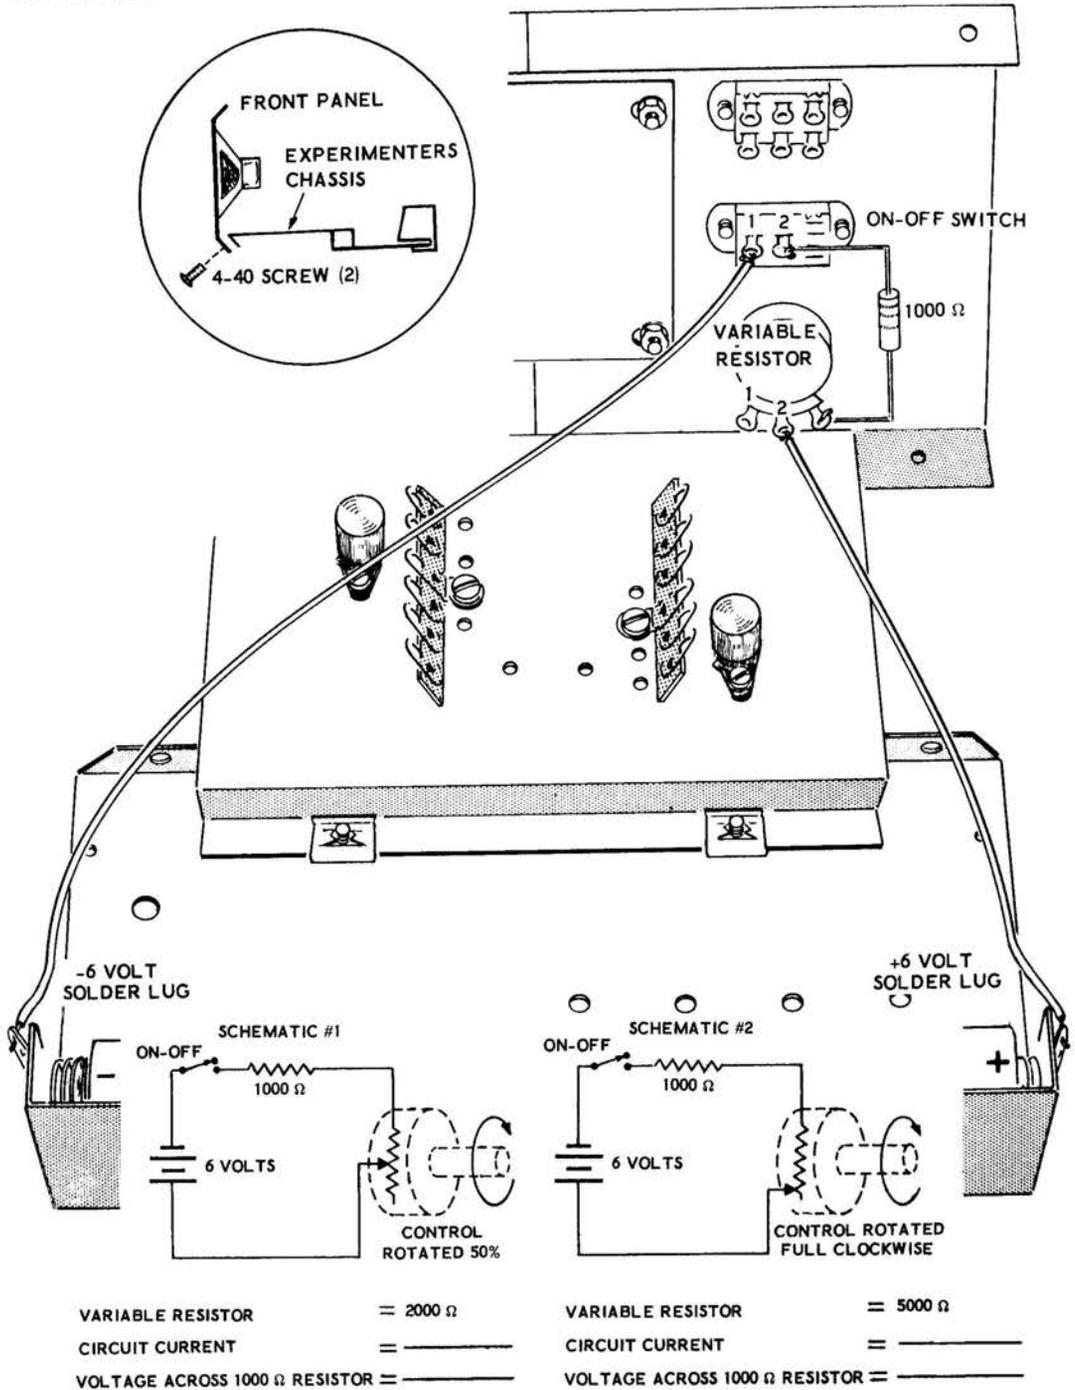
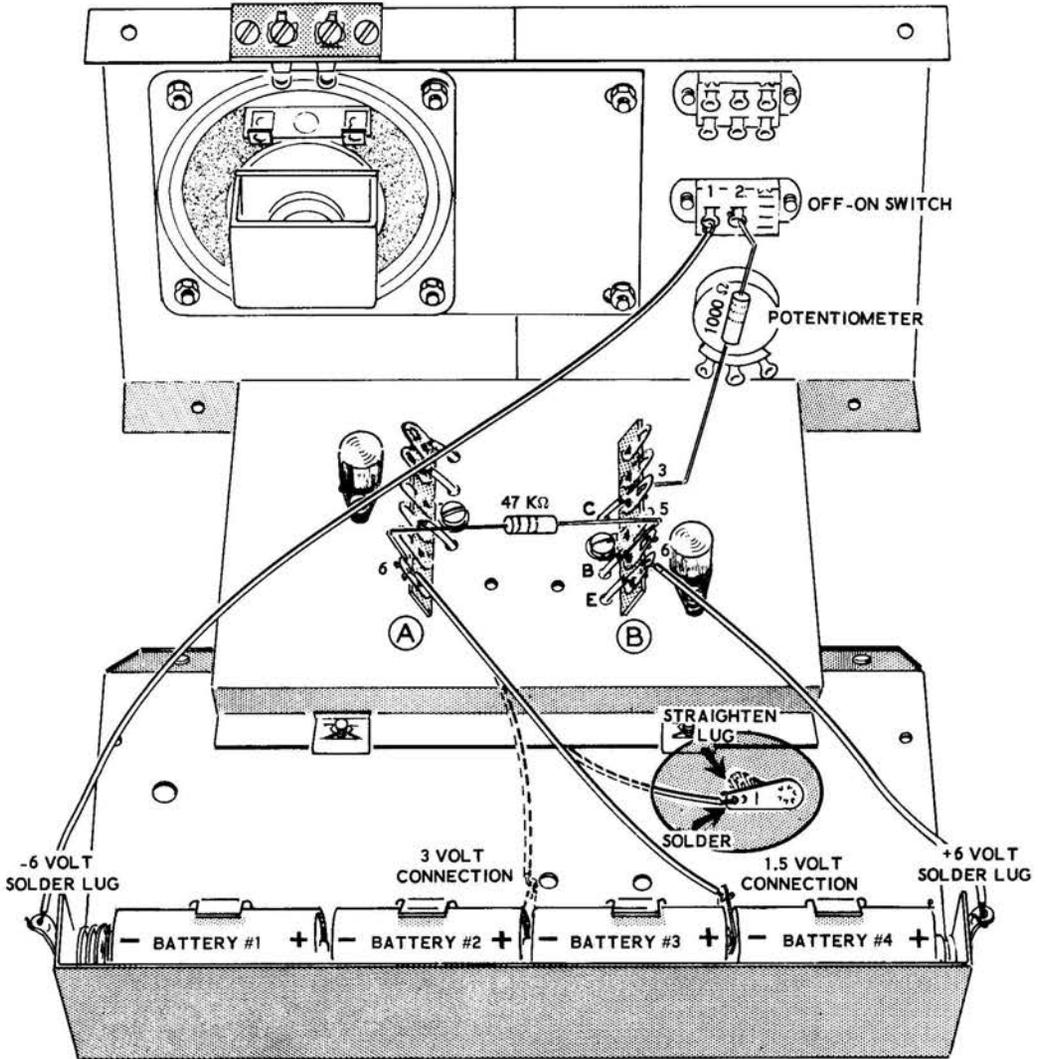

Figure 3K
Figure 3L
- () Fasten the assembled front panel to the front lip of the experimental chassis as it is in the inset in Figure 3K by installing two 4-40 screws into the 4-40 speednuts on the front flange of the experimental chassis.
Refer to Figure 3K for the following steps.
- () Connect a 12" length of hookup wire from the -6 volt solder lug (S) to lug 1 of the ON-OFF switch (S).
- () Connect a 1000 Ω resistor from lug 2 of the ON-OFF switch (S) to lug 3 of the variable resistor (S).
- () Connect an 8" length of hookup wire from lug 2 of the variable resistor (S) to the +6 volt solder lug (S).
- () Remove your meter leads from lugs 2 and 3 of the variable resistor. You have now adjusted the variable resistor to give you the circuit of Schematic #1 of Figure 3K.
- () Connect the minus voltmeter lead to lug 2 of the ON-OFF switch and connect the positive voltmeter lead to lug 3 of the variable resistor. Turn the ON-OFF switch ON. Note the reading on the meter. This is the voltage across the 1000 Ω resistor. Mark it down in the correct blank below Schematic #1 of Figure 3K.
- () The circuit has now been adjusted so that your meter will read the current flowing in Schematic #2 of Figure 3K. Note the current reading on the meter and write it down in the proper blank below the schematic.
- () Now connect the negative meter lead to lug 2 of the ON-OFF switch and connect the positive meter lead to lug 3 of the variable resistor. Note the voltage reading on the meter and insert it in the proper blank below Schematic #2 of Figure 3K.
Refer to Figure 3L for the following steps.
- () Disconnect the 1000 Ω resistor lead from lug 3 of the variable resistor and connect it instead to lug 3 of terminal strip B (S).
- () Disconnect the lead from lug 2 of the variable resistor and connect it instead to lug 6 of terminal strip B (S).
- () Connect a 47 K Ω resistor from lug 6 of terminal strip A (NS) to lug 5 of terminal strip B (S).
- () Connect a #6 solder lug to one end of a 6-1/2" hookup wire as shown in the inset drawing of Figure 3L (S). Squeeze the solder lug out flat with pliers before soldering the lead to it.
NOTE: The experimental chassis is now wired with the circuit shown in schematic #1 of Figure 3L. To make the schematic diagram easier to follow, the battery which controls the current in the transistor is shown separately. Actually it is battery #4 that is used for this purpose, as well as its normal purpose of supplying power to the rest of the circuit (in series with the other three batteries). The 47 K Ω resistor is used only as a protective device (current limiter) in the circuit, and it should not be considered as an integral part of the experiment.
() The circuit of Schematic #1 is now completed since your meter bridges across the ON-OFF switch. Note the reading on the meter and mark it down in the blank for measured circuit current (I) on Schematic #1 of Figure 3L.
() Turn the ON-OFF switch to the ON position and note the reading on the meter. Mark this voltage reading down in the blank for the "measured voltage across R1," the 1000 Ω resistor at Schematic #1 on Figure 3L.
SCHMATIC #1 OF FIGURE 3L
SCHMATIC #2 OF FIGURE 3L
() Turn the ON-OFF switch ON and note the meter reading. Mark this voltage reading down in the blank for "measured voltage across R1" at Schematic #2 in Figure 3L.
() Note the current indicated by the meter and mark it down in the blank for "measured Circuit Current" (I) at Schematic #2 of Figure 3L.
When you have calculated this resistance, mark it down in the correct blank at Schematic #1 of Figure 3L.
- () When this transistor resistance has been calculated, mark it in the proper blank at Schematic #2 of Figure 3L.
Experiment 1 (Figure 3K) showed how current can be controlled with a variable resistor. By changing the setting of the variable resistor, the current in the circuit changed and when the current changed, it changed the voltage across resistor R1. Experiment 2 (Figure 3L) showed that the same type of control can be accomplished using a transistor in place of the variable resistor. Notice that the voltage at R1 was changed by changing the voltage connected between the Base and the Emitter of the transistor. When this voltage at the Base of the transistor was changed, it changed the resistance of the transistor in the series circuit. When the resistance of the transistor changed, it changed the current flowing in the circuit just as the variable resistor did. The result of the current change was the same as the result obtained in Experiment 1, the voltage across R1 changed.